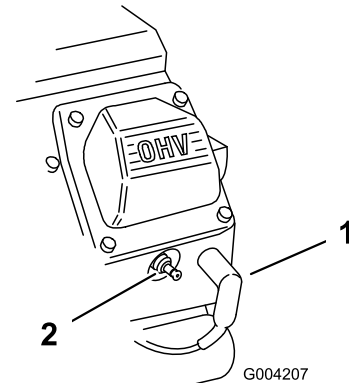

Figure 50
2. Pull the wires off of the spark plugs (Figure 50).
3. Push the wires onto the spark plugs (Figure 50).